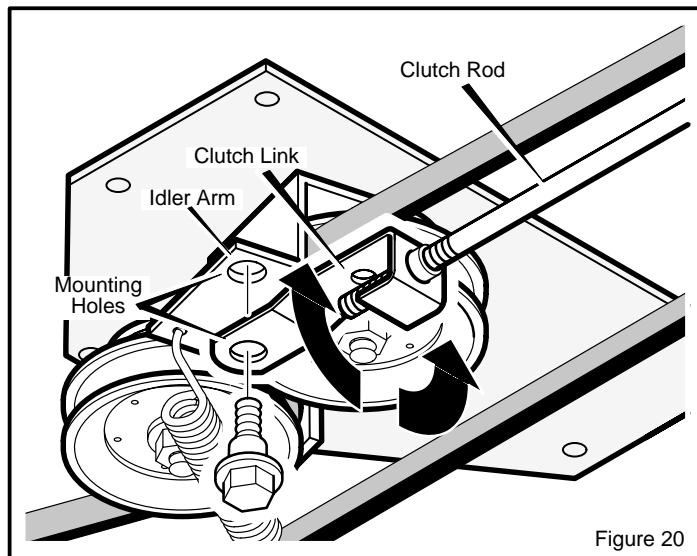

Figure 20
2. Disconnect the **clutch link** from the **idler arm** (Figure 20).
4. Rotate the **clutch link** until the mounting hole in the **clutch link** is aligned with the hole in the **idler arm** as shown in Figure 20.
5. Connect the **clutch link** to the **idler arm** (Figure 20).